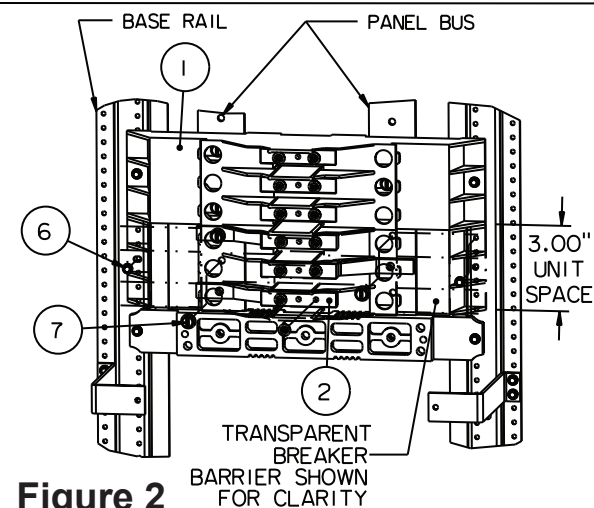

Figure 2
6. Refer to Figure 2
Position the breaker mounting barrier (item 1) so that it fills the 3" unit space for the kit and fasten it to the base rails using two #8-32 screws (item 6). Install the three outer connectors (item 2) within the mounting barrier, alternating between the left and right panel bus. The left-right-left connector pattern shown in Fig. 2 may be reversed if necessary to continue a connector pattern already in place in the panel. Fasten the connectors to the panel bus with three 1/4"-20 x 5/8" screws (item 7).